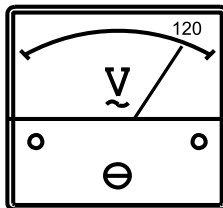

Figure 32. Voltmeter
9. The generator's AC-voltmeter (Figure 32) will display the generator's output in **VOLTS**.